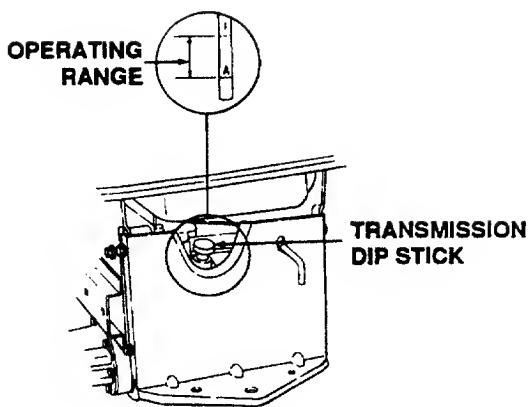

Figure 21
Check the oil level of the transmission case before each use to see that it is filled to the correct level. Before checking the transmission oil level, clean the area around the oil fill plug/dipstick to prevent debris from entering the transmission case. Always keep the oil level between the "FULL" and the "ADD" marks on the dipstick. (See Figure 21.) When checking the oil level, the dipstick must be withdrawn and wiped clean, then inserted all the way and withdrawn for a true reading.
3. Remove the oil fill plug/dipstick from oil fill port and SLOWLY pour oil into the oil fill port. Fill the transmission case until the oil level reaches the "FULL" mark on the dipstick. (Refer to Figure 21.)
- Remove the oil fill plug/dipstick from oil fill port and SLOWLY pour oil into the oil fill port. Fill the transmission case until the oil level reaches the "FULL" mark on the dipstick. (Refer to Figure 21.)